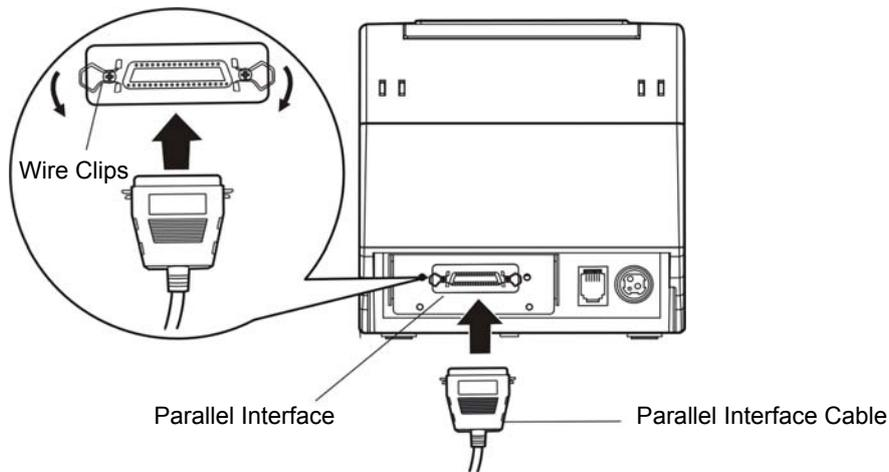

Figure 2-3 Connecting the parallel interface cable
1. Make sure the computer and the printer are both turned off, connect the parallel interface cable to the connector of the printer. Squeeze the wire clips on both sides and make the cable fixed. As shown in Figure 2-3.